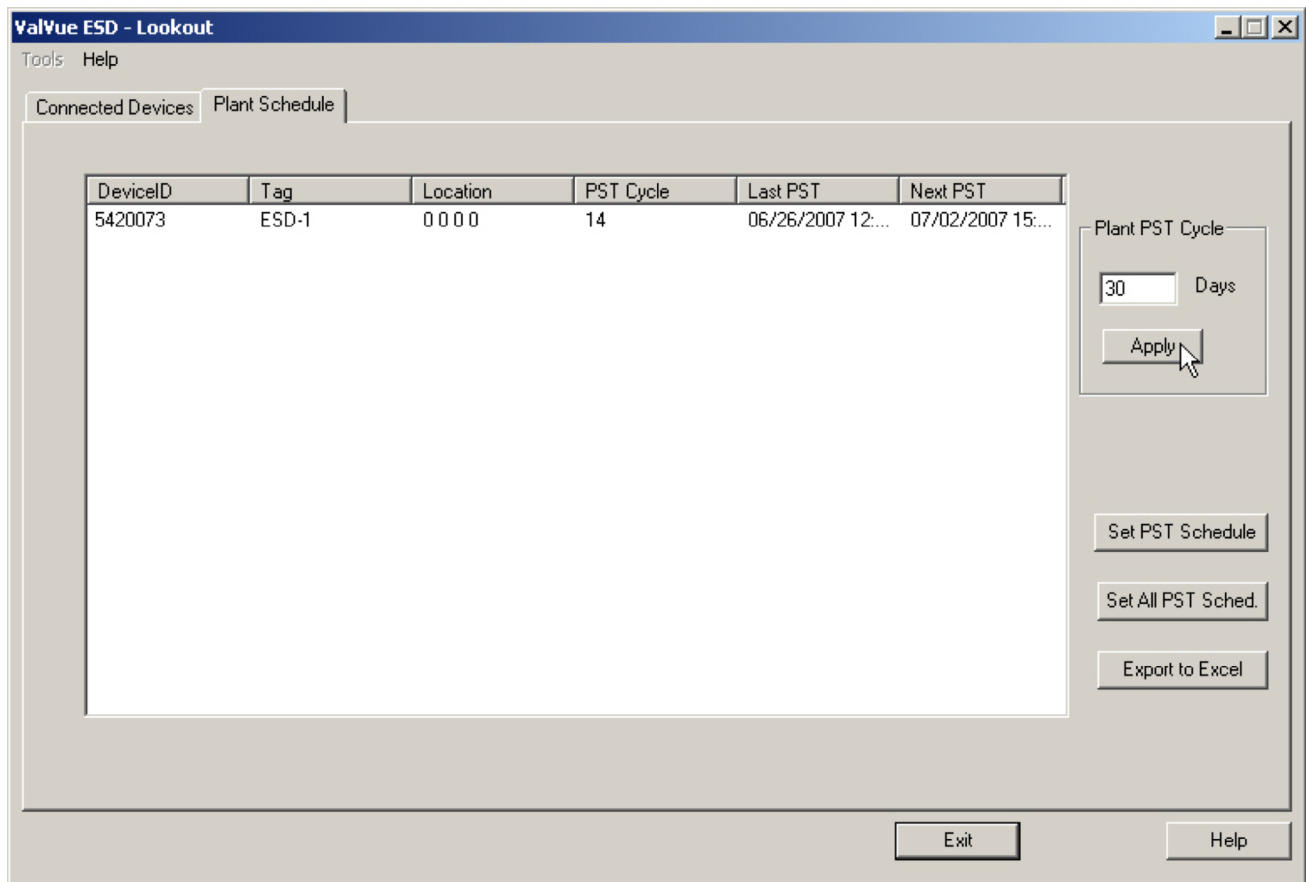

Figure 41 - Applying Edits to the Plant Schedule
3. Click **Apply** to save and apply changes (*Figure 41*).